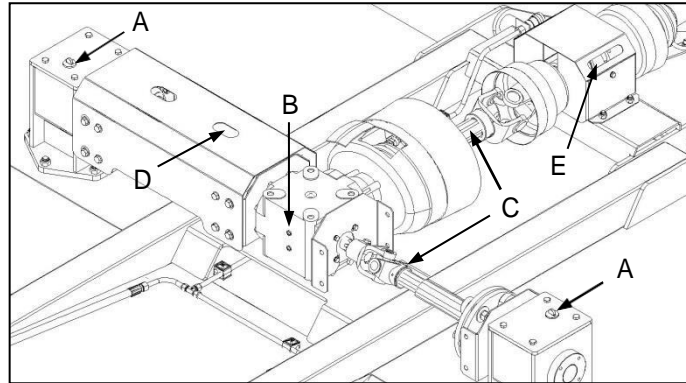

Fig. 10 (F60-350VT)
- ✔ A dipstick (Fig. 10-A) is provided on each of the outboard gearboxes for this purpose. The oil level should fall within the area indicated on the dipstick.
- ✔ The centre gearbox is equipped with oil filling ports. Remove the upper filler plug (Fig. 10-B) and add oil through the filling port so that the oil level coincides with the bottom edge of the hole.
- ✔ Elk van die buiteratkaste het 'n peilstok (Fig. 10-A) vir hierdie doel. Die olievlak moet binne die perke val wat op die peilstok aangedui word.
- ✔ Die sentrale ratkas is van olieulgate voorsien. Verwyder die boonste vullerprop (Fig. 10-B) en voeg olie by totdat die olievlak gelyk is met die onderste rand van die gat.
- ✔ Intermediate shafts (Fig. 10-C, with cover removed for clarity) should have grease applied to the UV joints as well as the telescopic tubes. Note that both these locations are accessible through apertures provided on the intermediate shaft cover (Fig. 10-D).
- ✔ Apply grease to the double pedestal bearings (Fig. 10-E), also accessible through the aperture provided.
- ✔ Tussenasse (Fig. 10-C, met skerm dekking verwyder vir duidelikheid) se kruiskoppelings en teleskopiese buise moet gegries word. Let op dat al hierdie dele deur openinge in die tussenas-skerm dekking bereik kan word (Fig. 10-D).
- ✔ Ghries die dubbele voetkoeëllaers (Fig. 10-E), wat eweneens deur die betrokke opening bereik kan word.